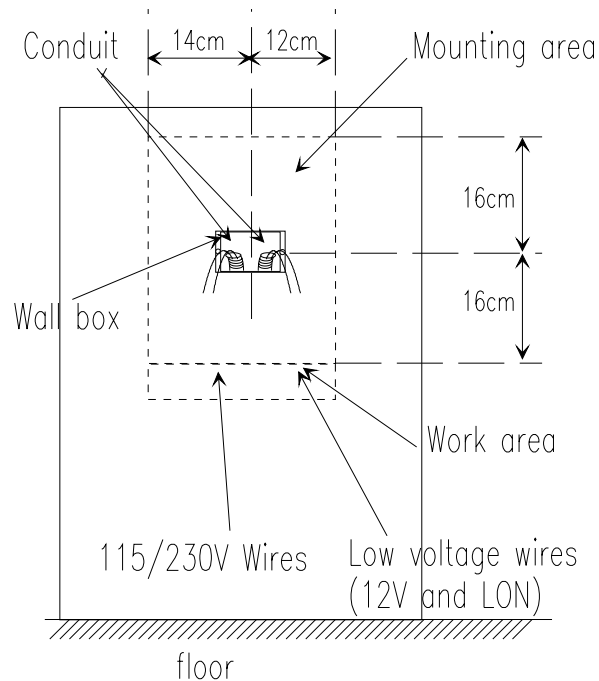

Figure 2. Space Requirements for Mounting
1. Choose an area that satisfies the specified requirements for mounting and being able to open the unit (see Figure 2).